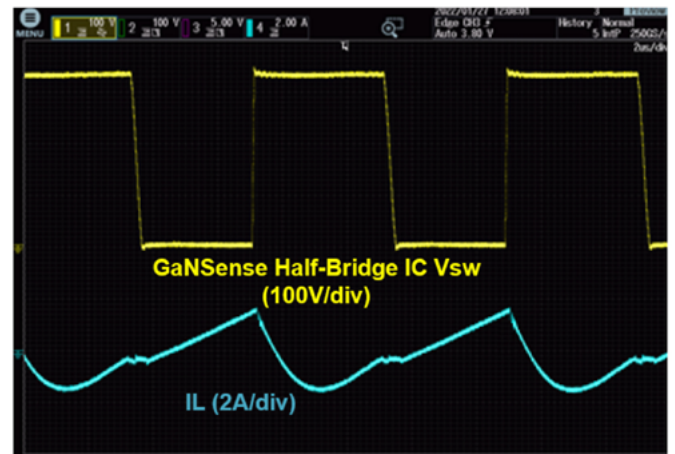

Figure 7: AHB switching waveforms during 115 VAC input and full load conditions, IL=blue (2 A/div), VSW=yellow (100 V/div)
The AHB half-bridge switch node (VSW) and tank current (IL) waveforms during 115 VAC input and full load conditions are shown in Figure 7. The resonant tank current ramps up linearly during each half-bridge low-side on-time and then resonates during each half-bridge high-side on-time. This results in clean and smooth ZVS operation at the GaNSense half-bridge IC VSW output node during each switching cycle. The AHB operating frequency ranges from 125 to 300 kHz, depending on input line and output load conditions.